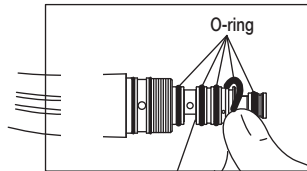

Fig. 46
- 2) Push out the worn O-ring with your thumb. Insert new O-ring in the O-ring groove. (Fig. 46)